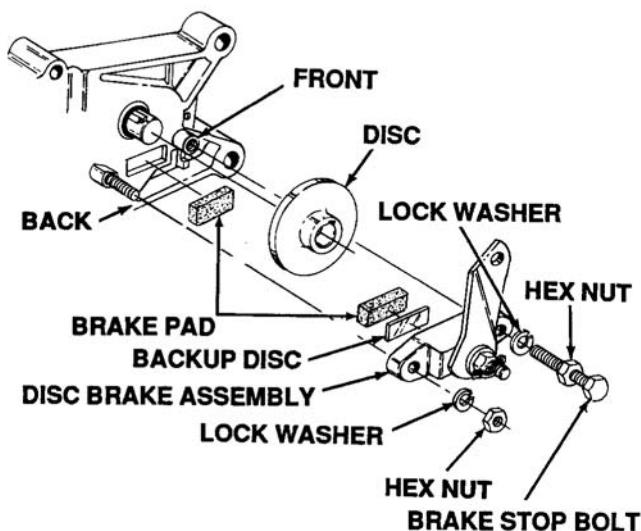

Figure 6-30. Disc Brake and Disc
- Remove disc brake and disc by removing a hex nut and lock washer on the rear of brake. Loosen hex nut on brake stop bolt. Remove the brake stop bolt, nut and lock washer. See Figure 6-30.